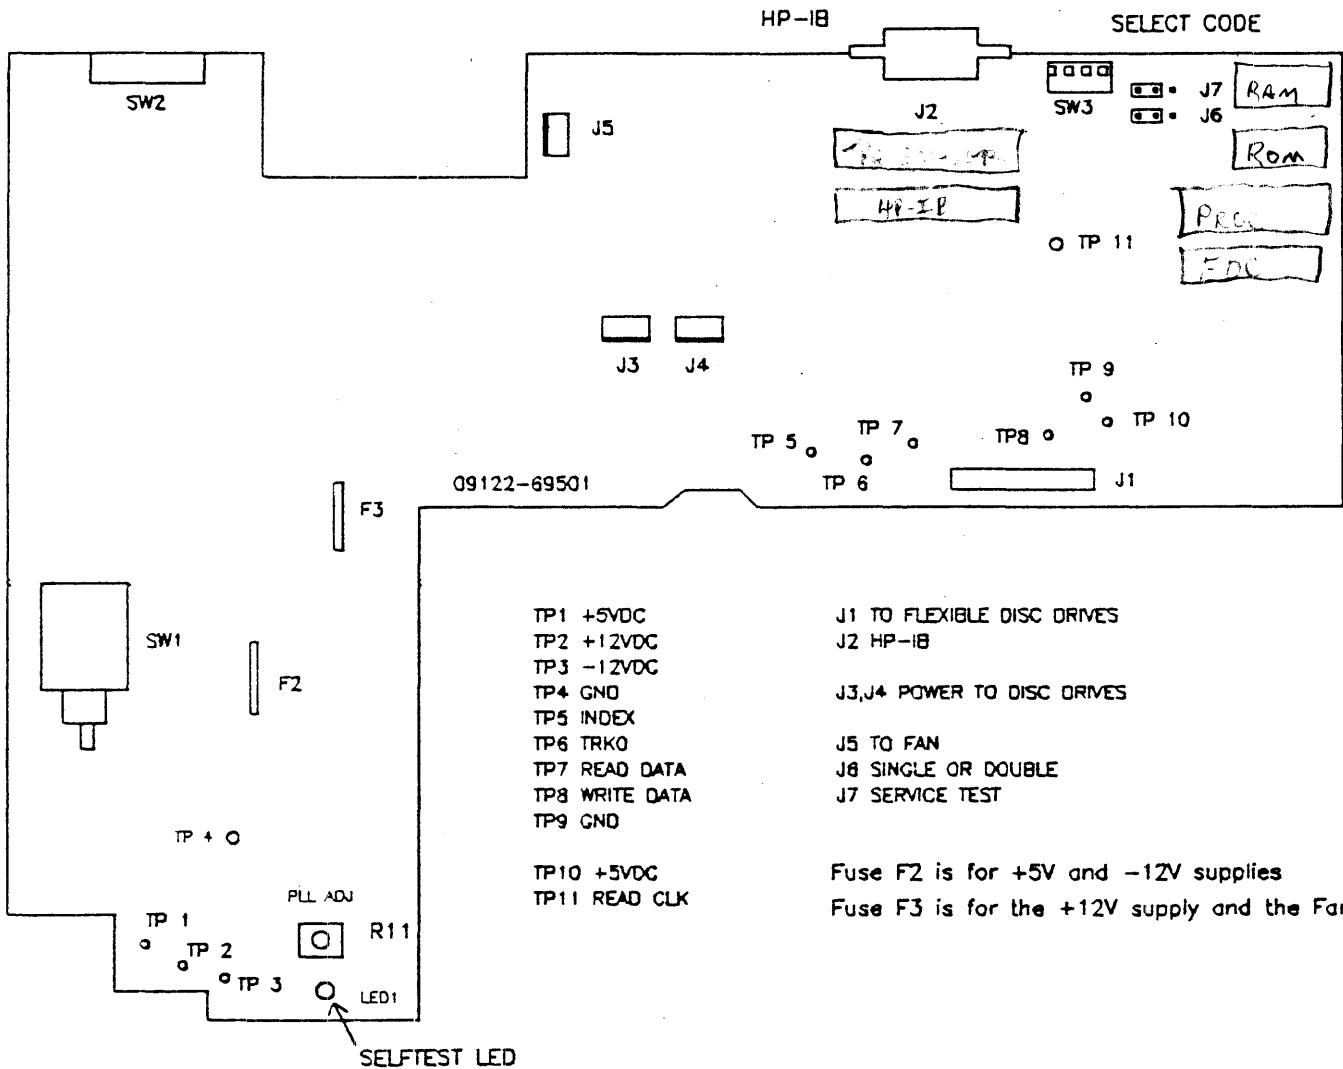
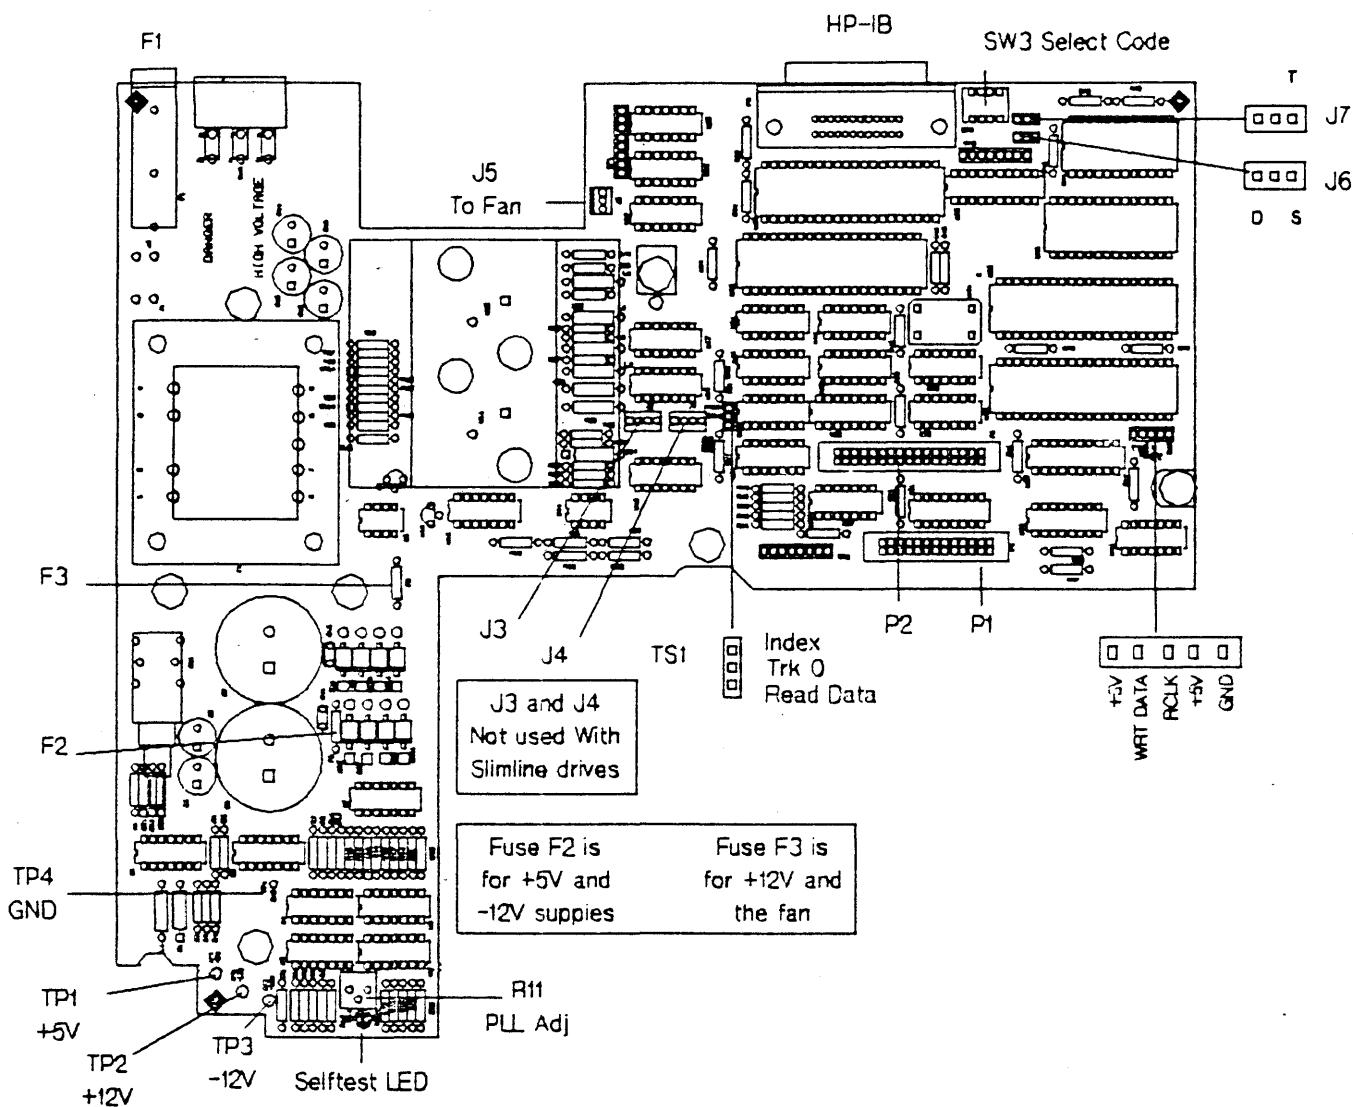

Figure 4-1. Controller and Power Supply PCA(09122-69511)
Figure 4-2. Controller and Power Supply PCA (09122-69504)
Figure 4-1 represents the power supply and controller electronics (S/N Prefix 2518A and below) of the printed circuit assembly (PCA). Figure 4-2 represents the supply and controller electronics (S/N Prefix 2614A, 2615A and above) of the PCA.
The following information applies to both controller PCAs shown in Figure 4-1 and 4-2. Jumper J6 is used to configure the controller PCA for either a single disc drive or for two disc drives (9122S or 9122D respectively). J7 is used to start the service tests. Jumper J6 is shown in the 9122D position, and J7 is shown in the normal operating position.
4. Short the TEST jumper pins J7, see figure 4-1 or 4-2, with a jumper to start the test; LEAVE SHORTED TO LOOP ON THE SELECTED TEST.
3. Check power supply voltages on the controller/power PCA. (See Figure 4-1, 4-2). Repair by replacing fuses F2 (-12V and +5V) or F3 (+12V) on controller PCA or replacing controller PCA.